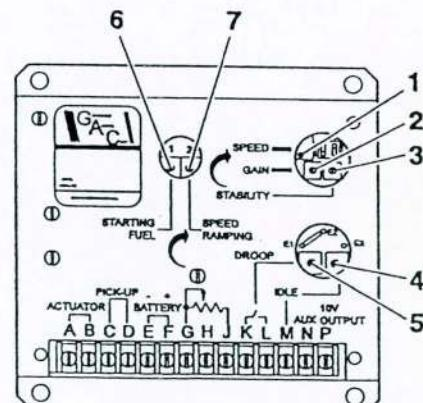

Fig. 3. Control unit ESD5500 with the rubber plugs removed.
The electronic control Unit (fig 3) compares the incoming signals with the pre-set values, and a correcting signal or an unchanged signal is transmitted to the actuator.
1. **Adjusting the idling speed** (marked "IDLE"), (4, fig. 3) is done with a single turn potentiometer. The idling speed can be adjusted with a jumper between the terminals "L" and "M" installed.
2. **Adjusting the operating speed ("SPEED")**, (1, fig. 3) is done with a 22 turn potentiometer.
3. **Governor sensitivity.** The governor's sensitivity is adjusted by a single turn potentiometer ("GAIN"), (2, fig 3). A small change of frequency can be noticed when adjusting the sensitivity. This can be adjusted by the "SPEED" potentiometer (1).
4. **Stability control.** The governor's time constant is adjusted by the single turn potentiometer ("STABILITY"), (3, fig 3).
5. **Droop.** The droop control (5, fig 3), marked "DROOP" is working when terminals "K" and "L" are connected. The adjustment range is 1 - 5%. Turning **clockwise** will **increase** the value.